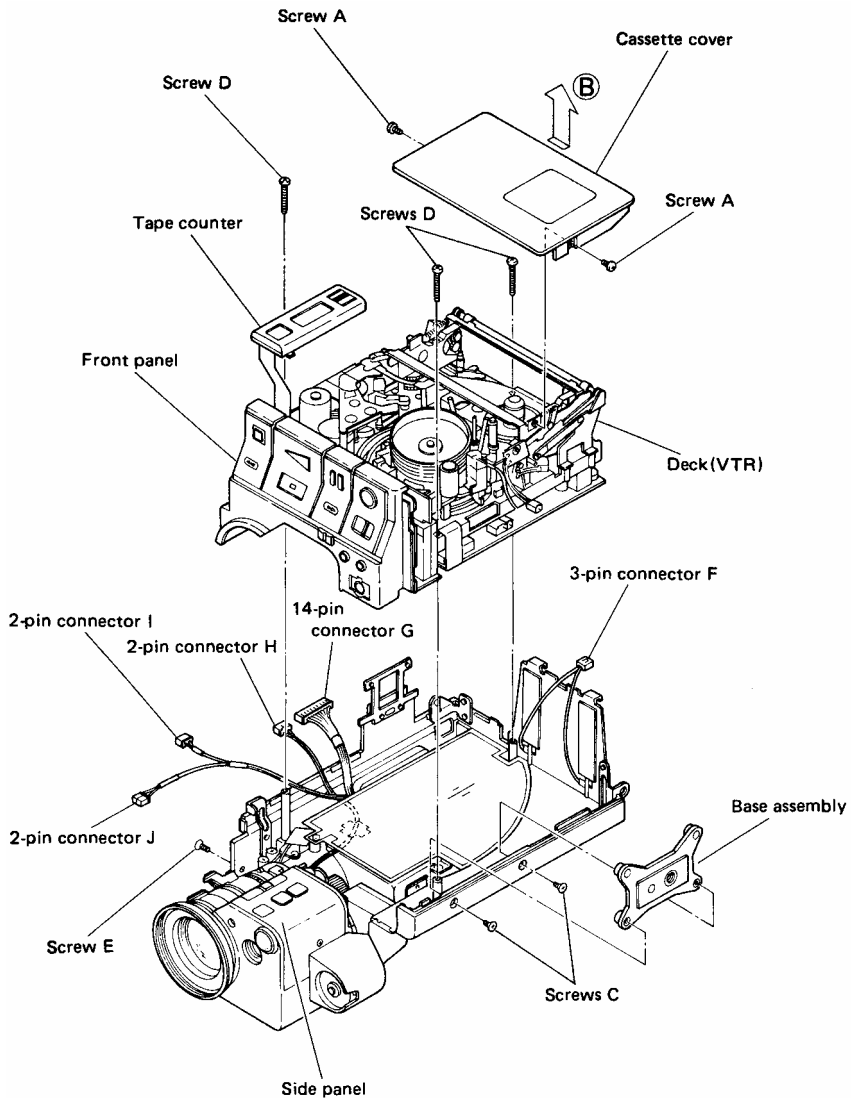

FIGURE 7-10 How the Zenith VHS-C camcorder can be taken apart. (Courtesy of Zenith.)
- 1 Refer to Fig. 7-10. Take out the two screws (A) that hold on the cassette cover. Raise the cassette cover, as indicated by the arrow (B) to remove. With this cover removed, you can usually clean the video head cylinder and other rubber roller parts and even part of the tape path.
- 2 Take out the two screws (C) and remove the base assembly.
- 3 Take out the three screws marked (D) and one screw (E).
- 5 Disconnect the connectors (F), (G), (I), and (J). The deck and operation sections can now be separated from the camera section.